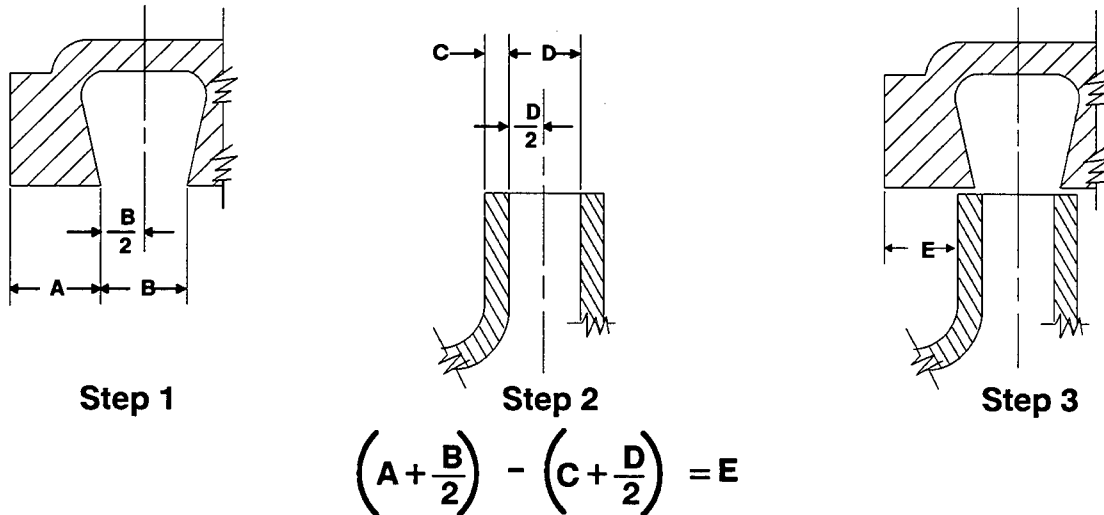

Figure 6. Centering Impeller Within Volute Scroll
To verify the impeller positioning, measure the pump casing and impeller as shown in Figure 6. Use these measurements to calculate the required impeller location (dimension E). Add or remove impeller adjusting shims (17) until dimension E is obtained.